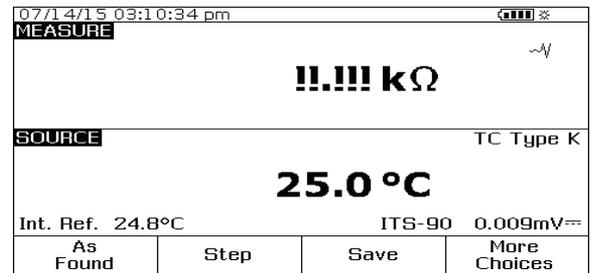

Figure 2. MEASURE/SOURCE split screen, contacts open.
- e. Depress the "MEAS/SOURCE" key to obtain the split screen display. The display of the 75X should be as per Figure 2.